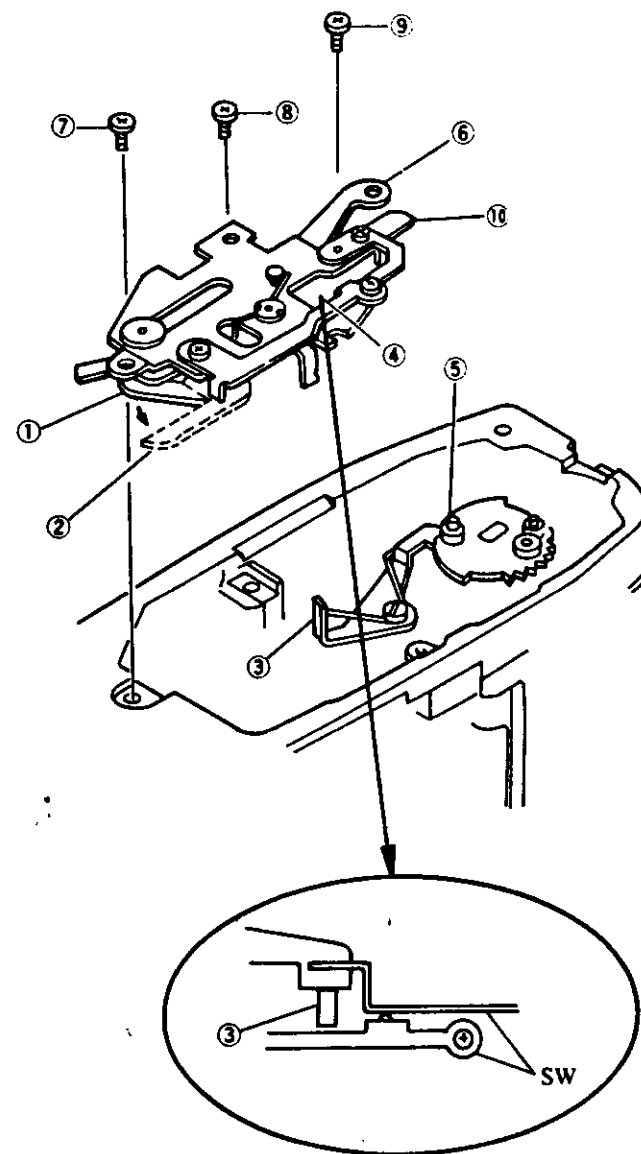

Fig. 18
3. Wind connection lever guide assy (see Fig. 18)